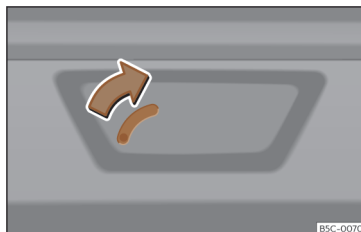

Fig. 88 Luggage compartment: manual release.
- Insert the key blade into the slot and move the key in the direction of the arrow until the lock unlocks >>> **Fig. 88**.